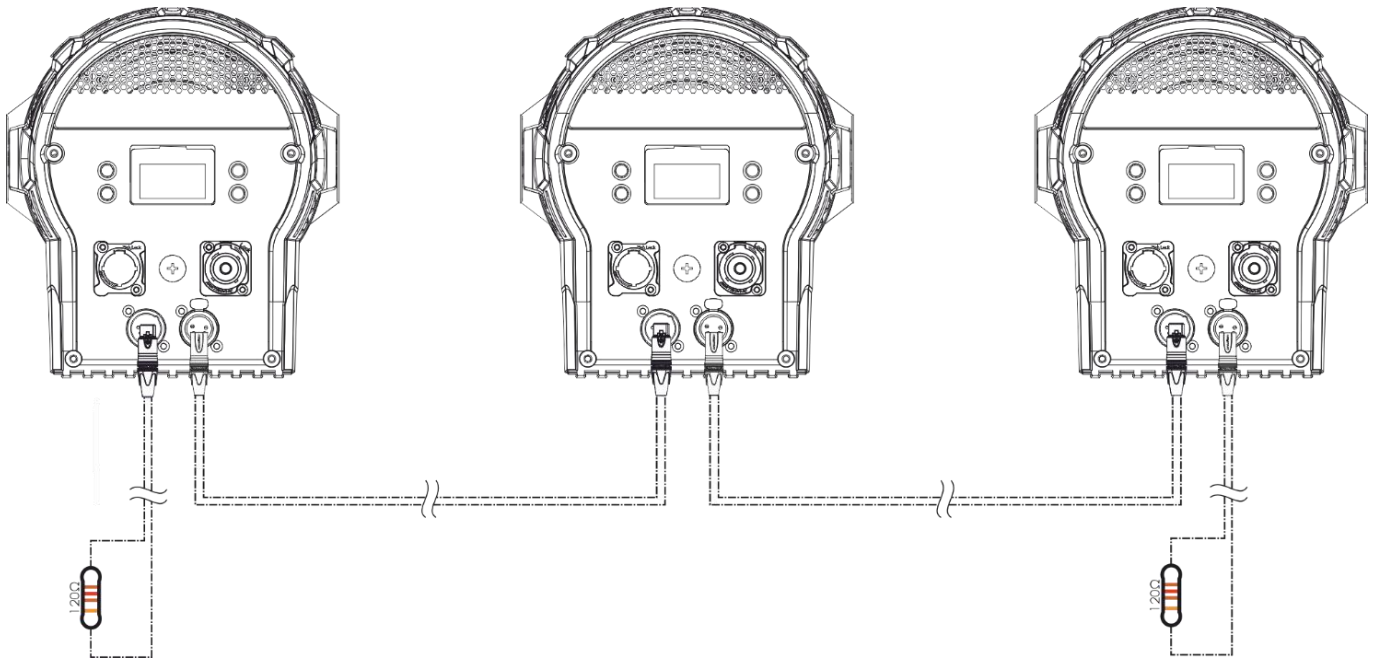

Fig. 09
- 02) Repeat step 1 to connect all devices as shown in Fig. 09.